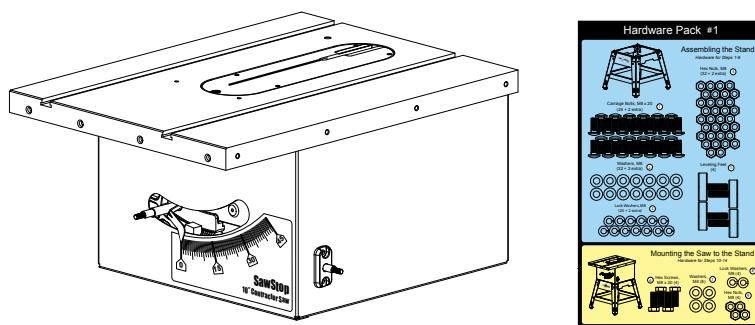

Fig. 10
10. Remove the saw from the box and locate the mounting hardware. All of the hardware needed to mount the saw to the stand is located in the area with the yellow background on hardware pack #1 (see Fig. 10).